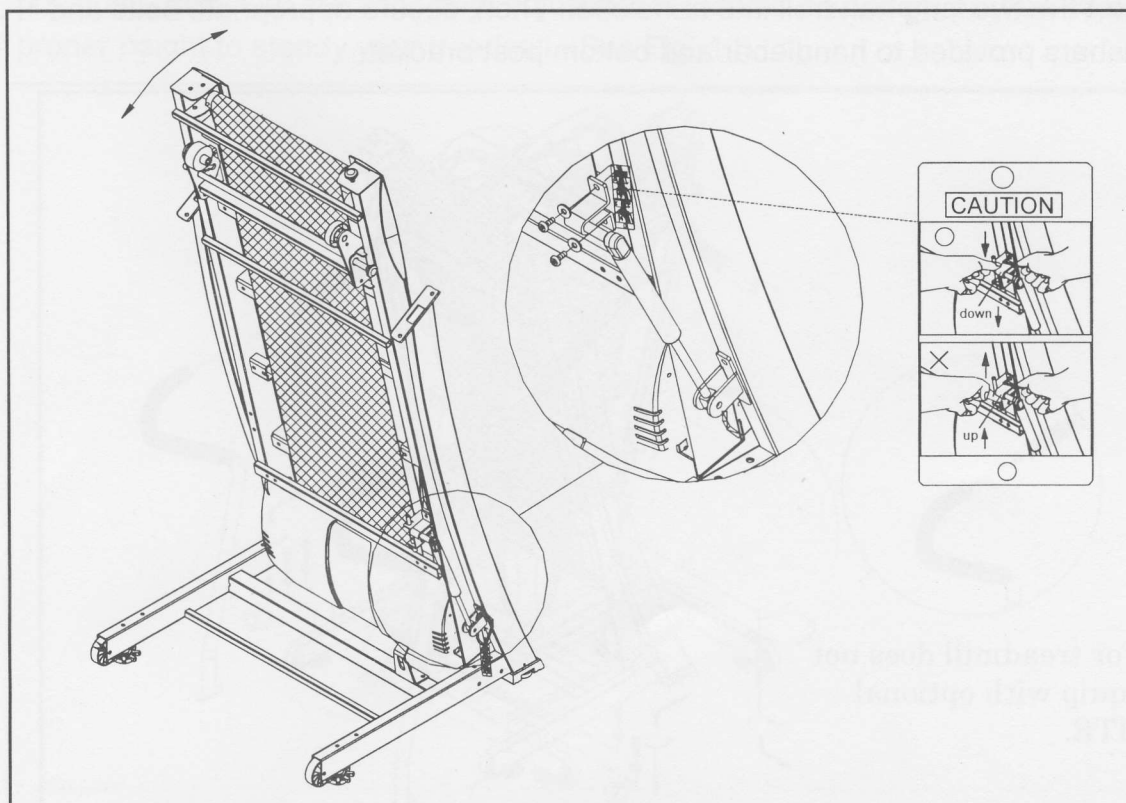

Fig.10
4. Attach the gas shock mounting bracket to proper position, but do not push gas shock mounting bracket upward all the way to its maximum. Then, securely tighten all bolts and washers. (See Fig. 10)